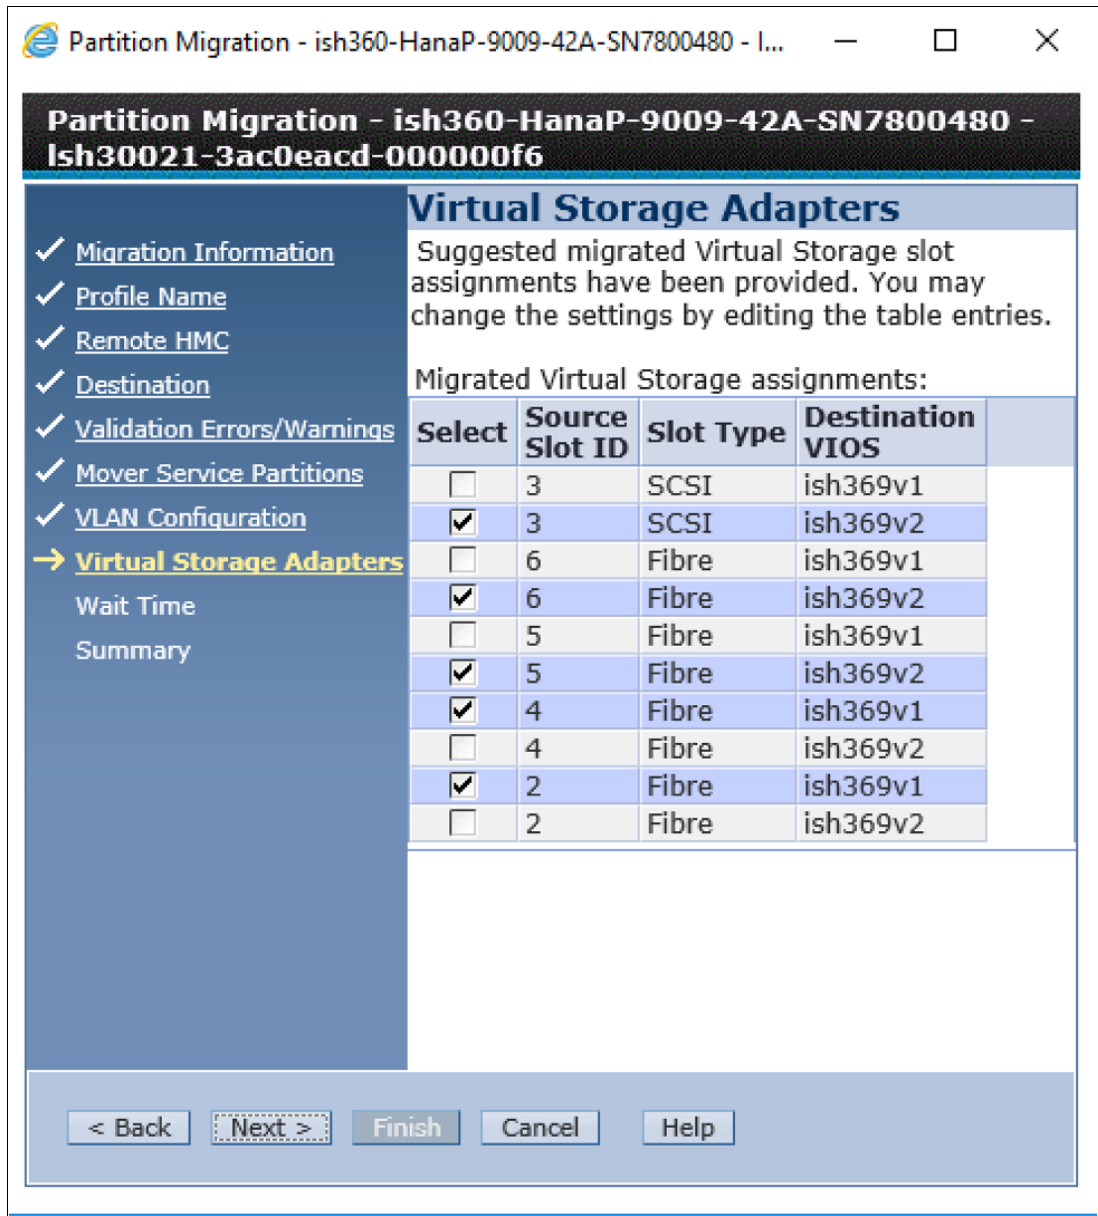

Figure 3-22 Virtual Storage Adapters gathering window
7. The storage information is gathered, as shown in Figure 3-22.